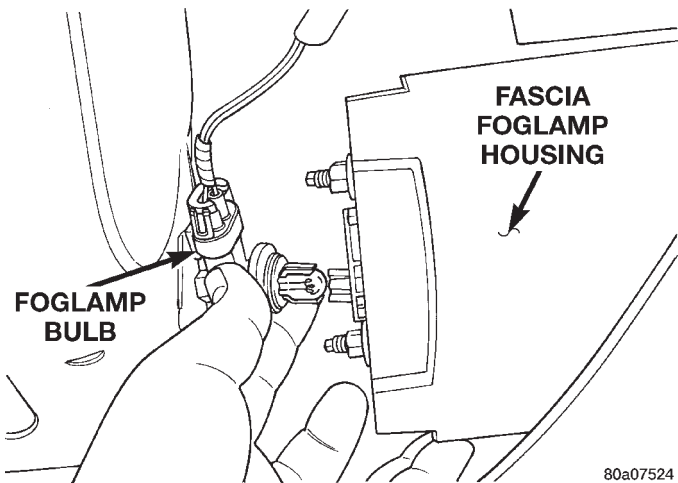

Fig. 3 Fog Lamp Bulb
- (1) Raise vehicle with suitable lifting device. Refer to Group 0, Lubrication and Maintenance, for proper procedures.
- (2) Rotate bulb one quarter turn counterclockwise.
- (3) Pull bulb from back of fog lamp (Fig. 3).
- (4) Disengage wire connector from bulb.